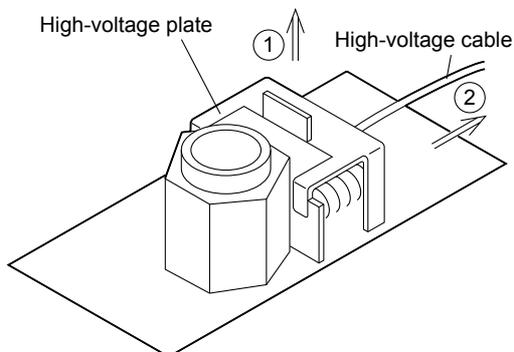

Fig. 18.8.4 Removing the FID high voltage unit
(2) Removing the FID high voltage unit
① Lift the high voltage plate up.
② Then pull the high voltage cable and its spring out horizontally as shown in Fig. 18.8.4.